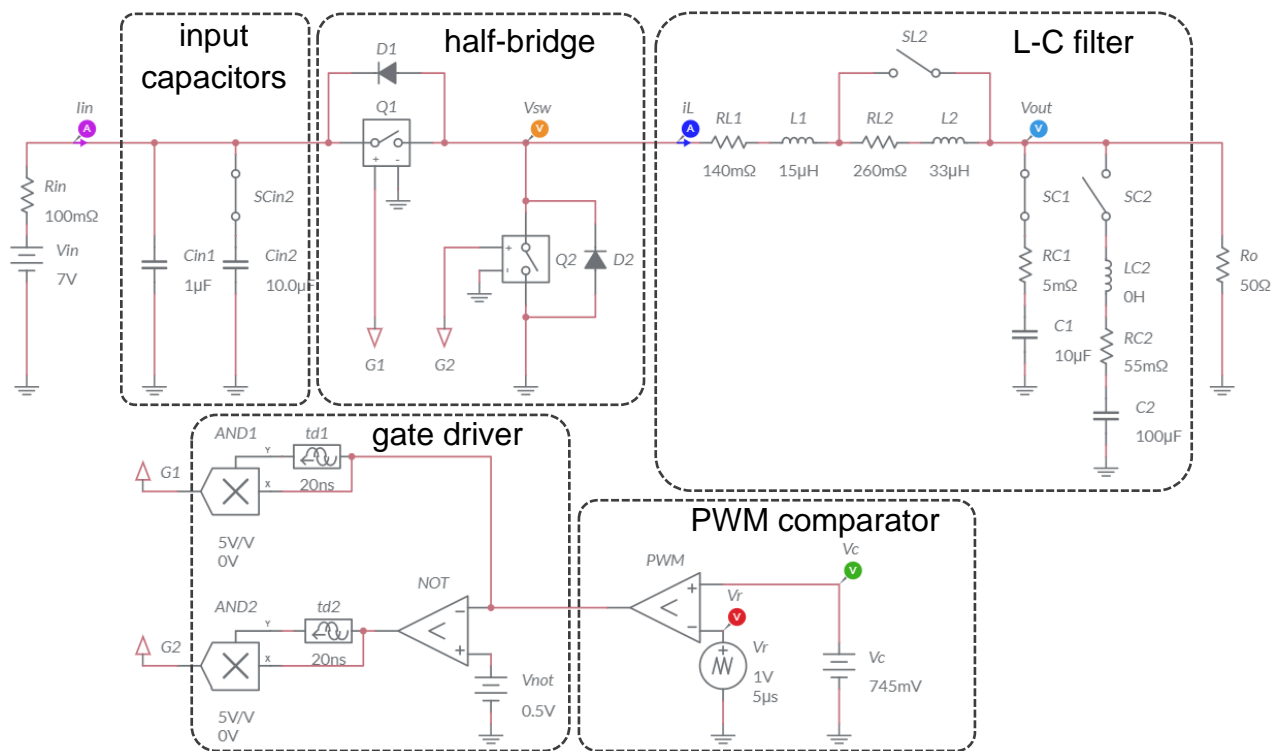

Figure 3-1. Multisim Live Circuit Schematic for the Analysis of Buck Regulator L-C Filter.
1. Open *Lab6 – Buck Regulator L-C Filter Operation* from this file path: <https://www.multisim.com/content/bdUiT8S52XAVbzkFwhgY44/lab-6-buck-regulator-l-c-filter-operation/>. The circuit schematic for the analysis of the Buck Regulator L-C filter operation is shown in Figure 3-1.